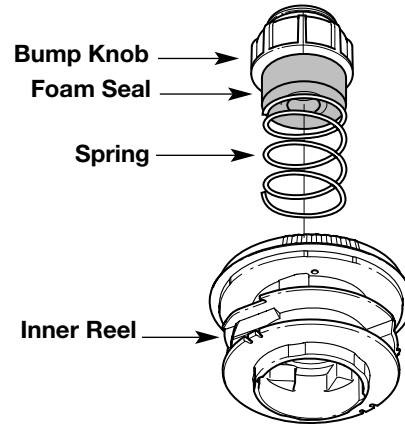

Fig. 22
- Turn the Bump Knob counterclockwise and remove the bump knob, spring, and foam seal (Fig. 22).
2. Pull out the bump knob, spring, and foam seal (Fig. 22).
3. Pull the inner reel with existing line from the outer spool (Fig. 22).
7. Place the bump knob, spring, and foam seal into the inner reel (Fig. 22).